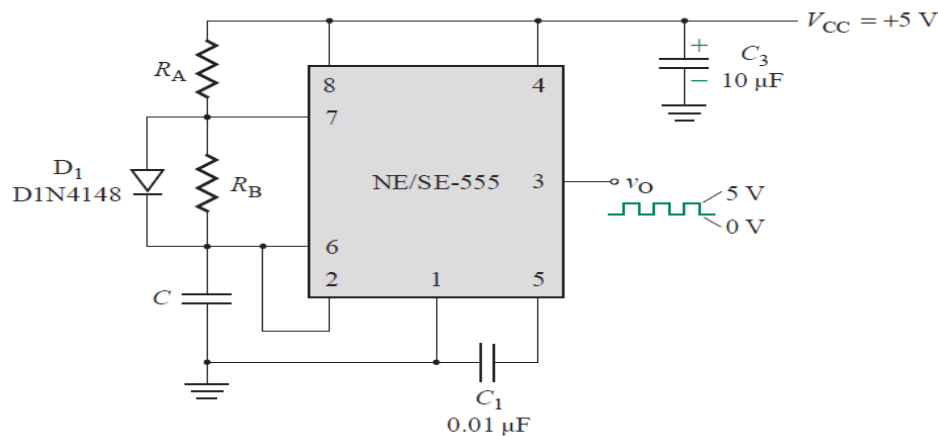

Figure 12.2
5. Repeat the above procedure and construct the circuit of Fig. 12.2 using 555 timer to generate the square wave. Measure output signal frequency.